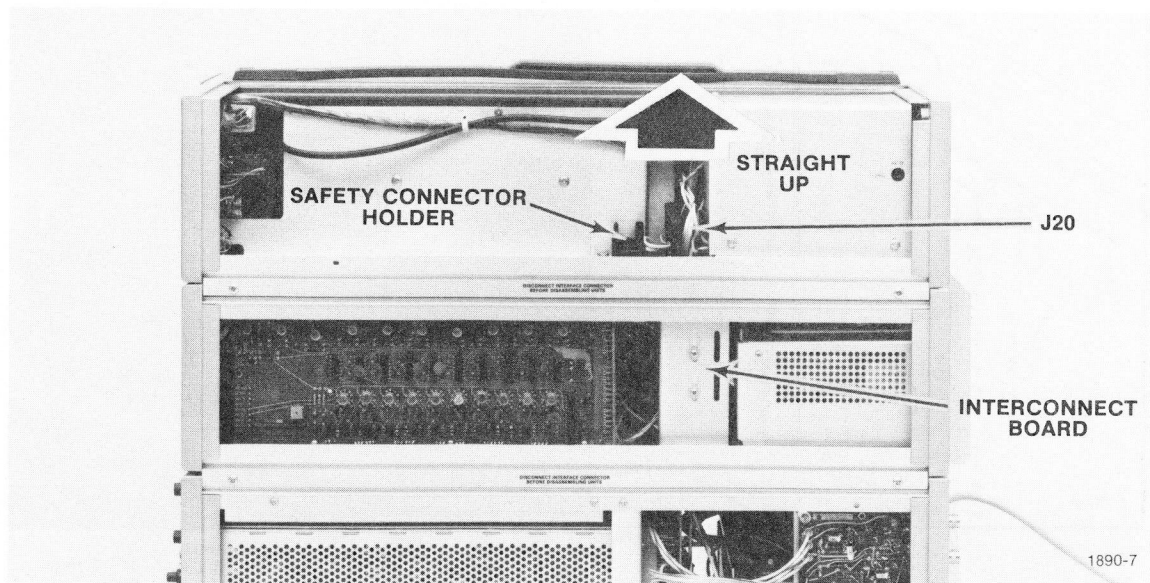

Fig. 7 - J 20/APD Interconnect Board.
- 2) lift J-20 off the APD Interconnect board on the right side of the Display Unit and store it in its holder (see Fig. 7),